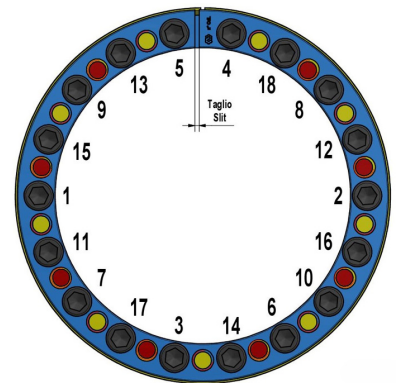

Fig. 3 Example of tightening pattern
4. Tighten the screws by hand in a crosswise pattern, starting with a screw located at 90° approx. respect to slit in the front thrust ring (fig. 3), until fitting clearances with shaft and hub bore are bridged and connected components are slightly locked, while making sure that hub is aligned as required using a dial indicator. **Better centering of hub from the beginning of installation is essential for better centering when installation is completed.**
5. Use a torque wrench set approx. 5% higher than specified tightening torque (Ma), or reduced within admissible value. **Progressively tighten the screws in a crosswise pattern (fig. 3), using approx. ¼ turns for several passes** until ¼ turns can no longer be achieved. Start with a screw located at 90° approx. respect to slit; screws adjacent to slit shall be tightened in a row.